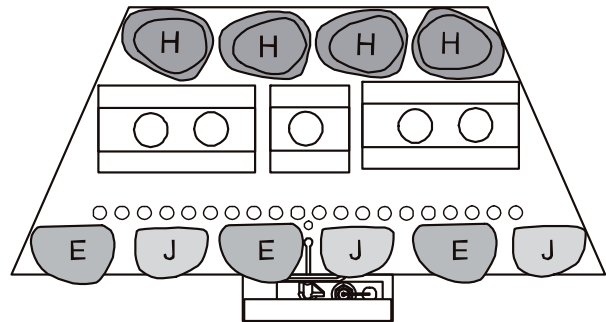

Figure 11
1. Unpack the **aeration tubes**, pebbles **H, E & J** and place them on the tray as shown in **Figure 11** ensuring that the port holes and the cross ignition slot remain clear. Note that the aeration tubes should be placed on their back, with the legs facing up ensuring that none of the port holes are blocked.